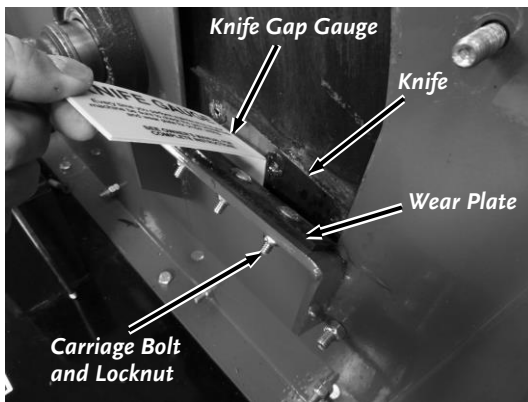

Figure 55
3. Slide the Knife Gauge in between the Knife and Wear Plate to check the clearance (**Figure 55**).